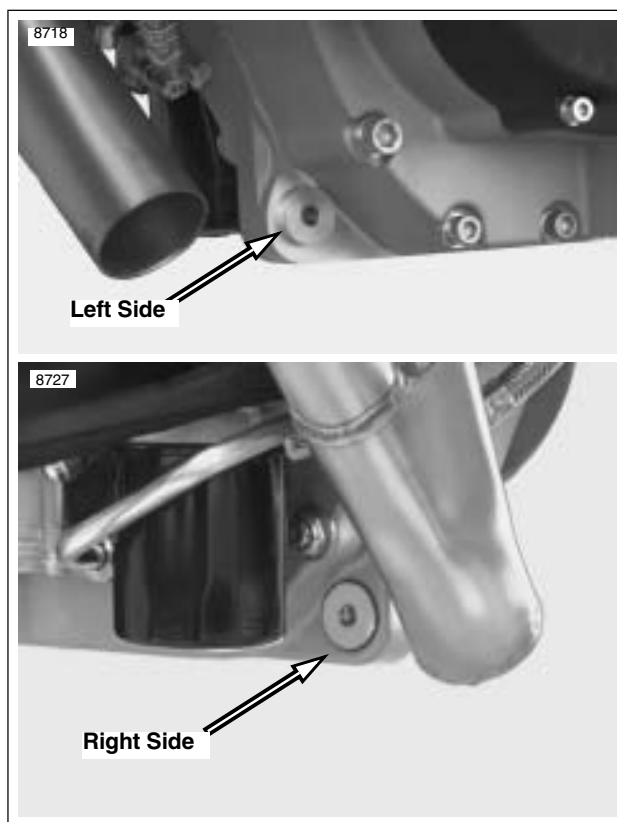

Figure 3-37. Front Exhaust Mount Bushings (2 piece)
- d. See Figure 3-37. Aluminum bushings from front exhaust mount.